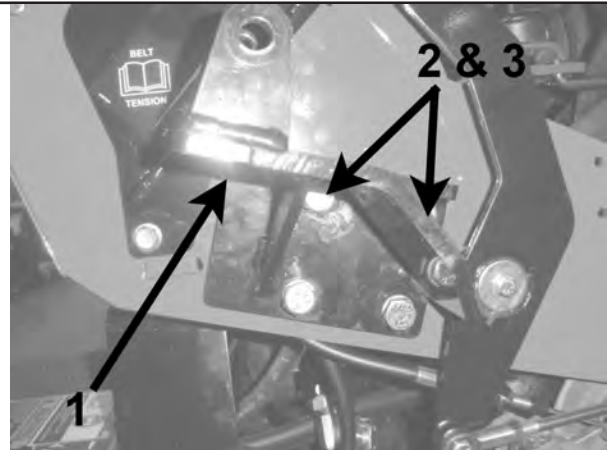

Figure 1
1. On the right front frame, install the Actuator Mounting Bracket **1** with four bolts **2** and lock washers **3**. Tighten the top two bolts first when installing. **(Figure 1)**